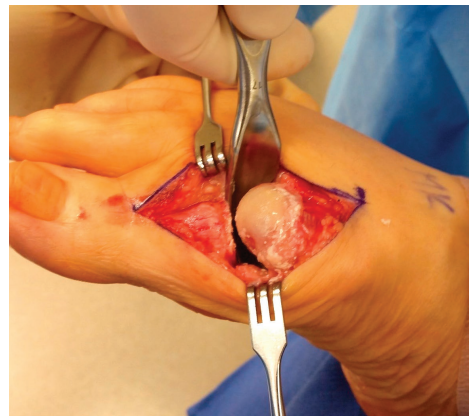

Fig.1C
- 1.2 Use a curved McGlamry elevator or other similar instrument to perform a complete release of the sesamoids (**Fig.1C**).